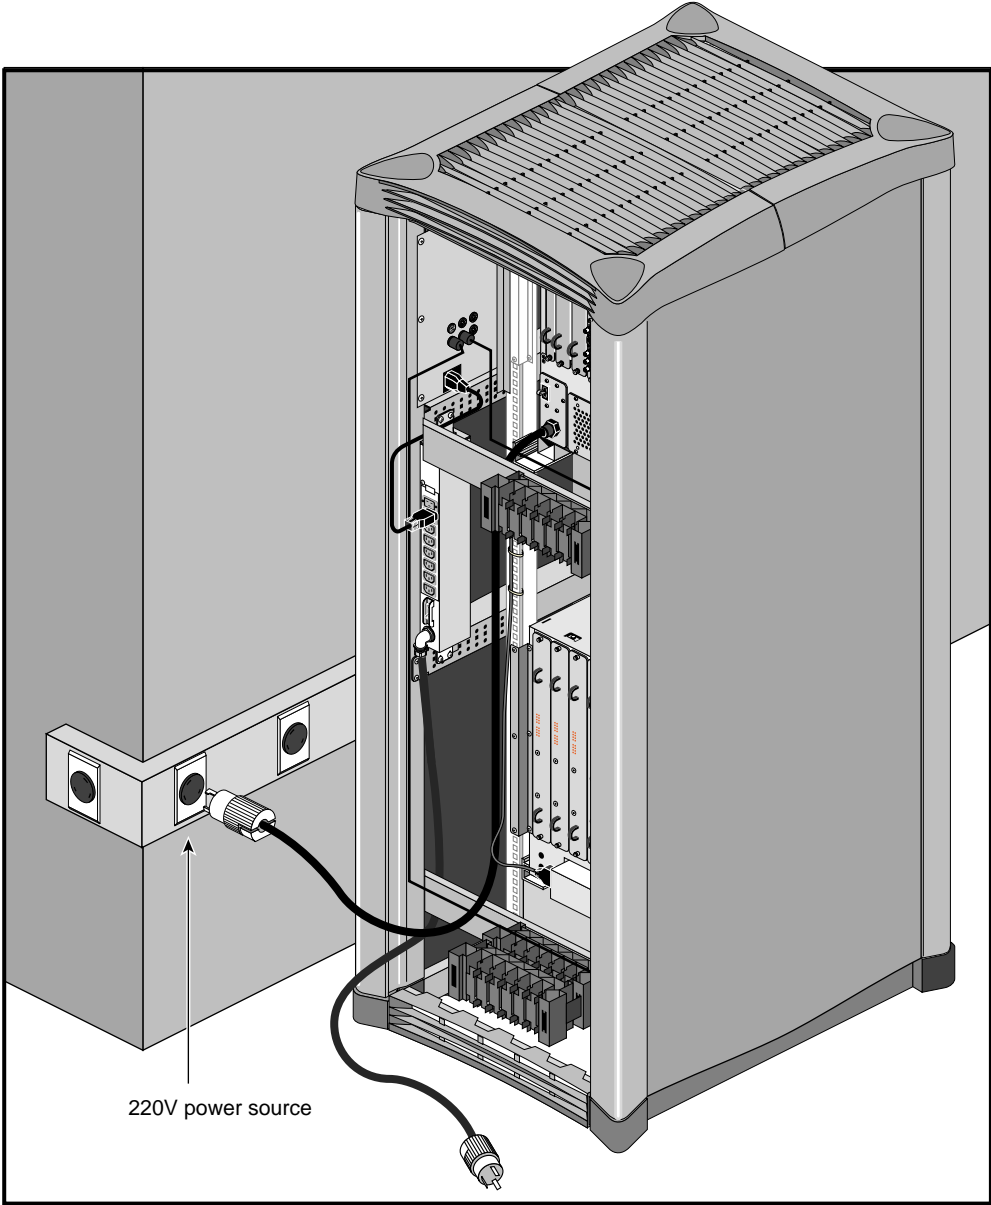

Figure 4-2 Connecting a Graphics Module Power Cable
2. Connect the power cable of each graphics module to a 200-240 VAC wall receptacle (see Figure 4-2).